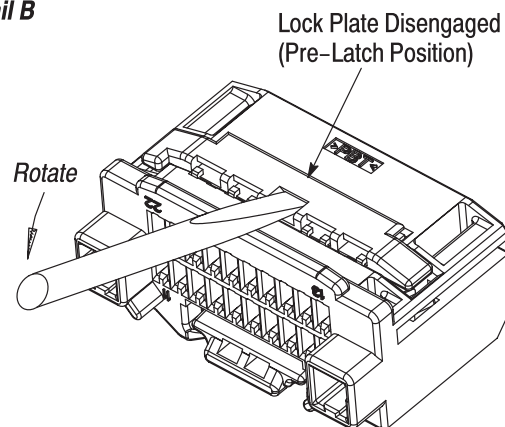

Figure 2
1. Insert the tip of a screwdriver having a 3.2-mm [.125-in.] (maximum) flat blade into the slot in the center of the lock plate. See Figure 2, Detail A.
2. Using slight pressure, carefully and slowly rotate the handle of the screwdriver until the lock plate is raised slightly (approximately 1.3 mm [.051 in.]) and evenly from the housing. See Figure 2, Detail B.